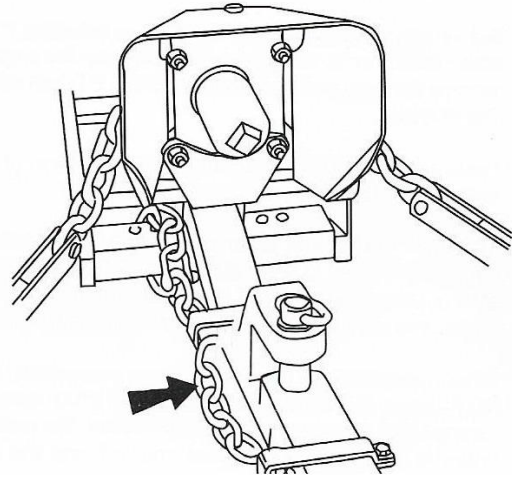

Fig. 17
- A safety chain will help control drawn equipment should it be accidentally separated from the drawbar while transporting. Using the appropriate adaptor parts, attach the chain to the tractor drawbar support or other specified anchor location. Provide only enough slack in the chain to permit turning. See your Massey Ferguson Dealer for a chain with a strength rating equal to, or greater than the gross weight of the towed machine (Fig. 17).
- Make sure any towed implements are equipped with a safety chain linking tractor and implement (Fig. 17).